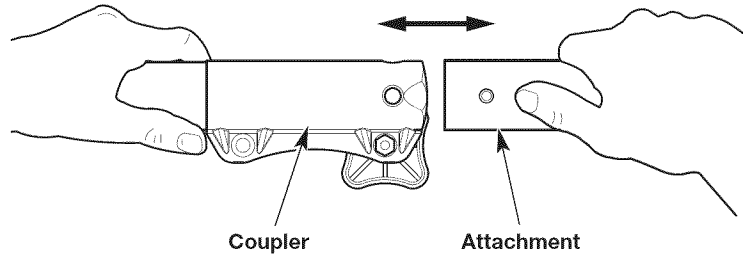

Fig. 2
4. Pull the attachment straight out of the coupler (Fig. 2).